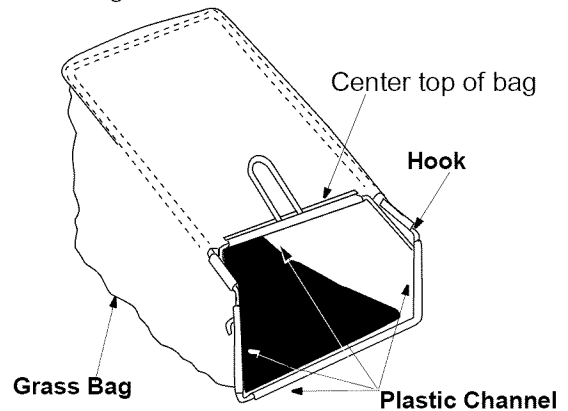

Figure 7
- Place bag over frame so that its black plastic side is at the bottom. See Figure 7.
- Slip the plastic channel of the grass bag over the hooks on the frame. See Figure 7. All of the plastic